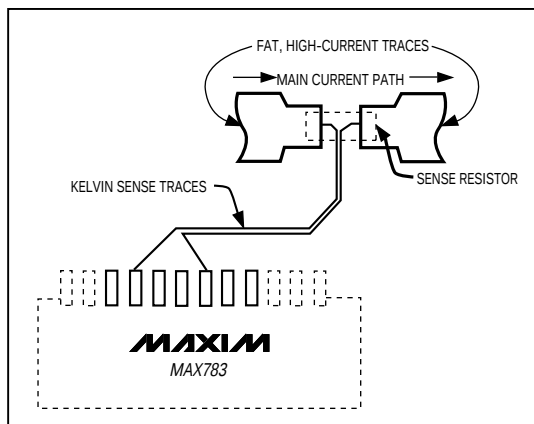

Figure 5. Kelvin Connections for the Current-Sense Resistors
Since the sense resistance values (e.g., $R1 = 25\text{m}\Omega$ for $I_{OUT} = 3\text{A}$) are similar to a few centimeters of narrow traces on a printed circuit board, trace resistance can contribute significant errors. To prevent this, Kelvin connect the CS_ and FB_ pins to the sense resistors; use separate traces not carrying any of the inductor or load current, as shown in Figure 5. Run these traces parallel at minimum spacing from one another. The wiring layout for these traces is critical for stable, low-ripple outputs (see the *Layout and Grounding* section).
2. Keep the Kelvin-connected current-sense traces short, close together, and away from switching nodes. See Figure 5. Important: Place the current-sense resistors close to the IC (less than 10mm away if possible).